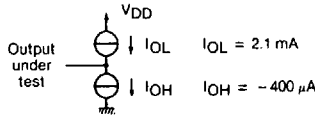

FIGURE 4 - AC LOADING CIRCUIT.
**Note 1:** Loading circuit (see Figure 4) input pulse levels : 0 V to 3 V.